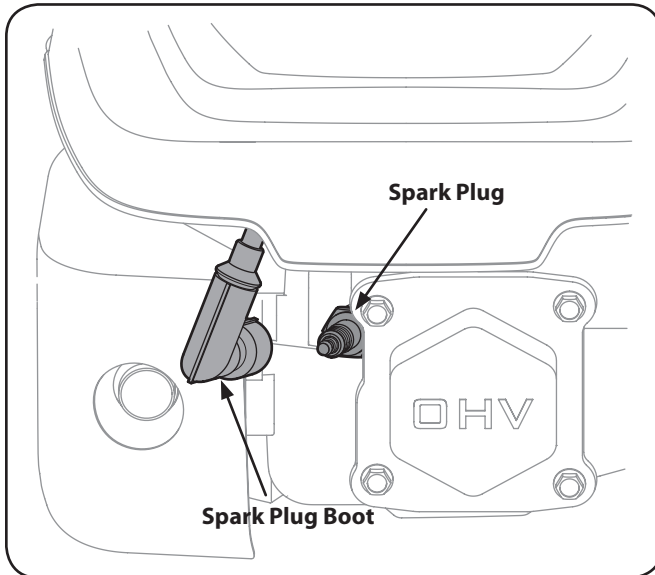

Figure 6-5
1. Remove the spark plug boot and use a spark plug wrench to remove the plug. See Fig. 6-5.